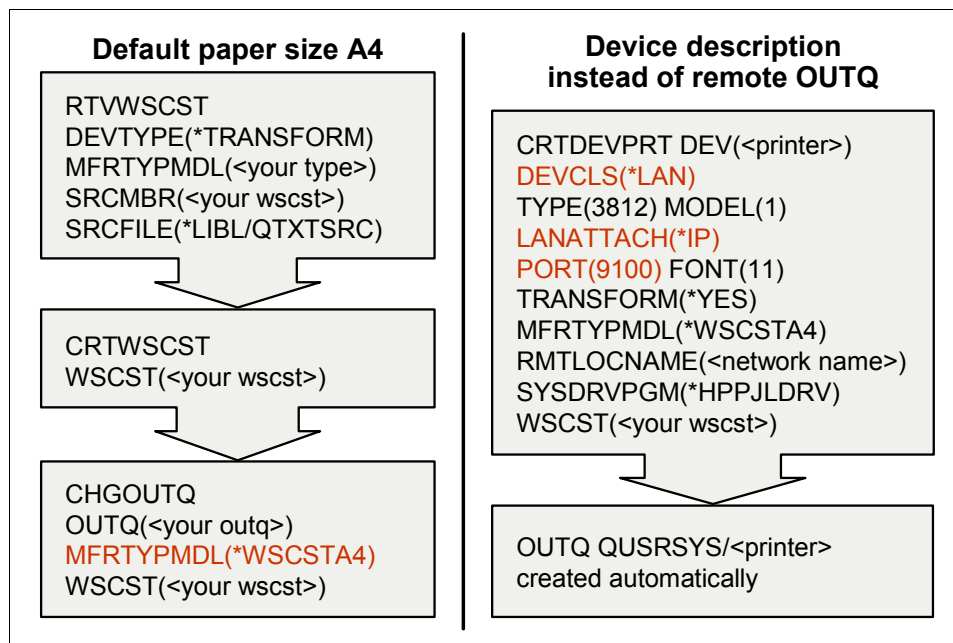

Figure 15-19 Create a WSTCST or a device description
- ▶ Creating a remote output queue is probably the easiest way to configure a network printer for the System i server. In Figure 15-19, two modifications are described that can be useful in some cases.
- Instead of a remote output queue, you can also create a device description as shown in the right part of Figure 15-19 on page 232. The advantage is a better feedback handling in case of errors.